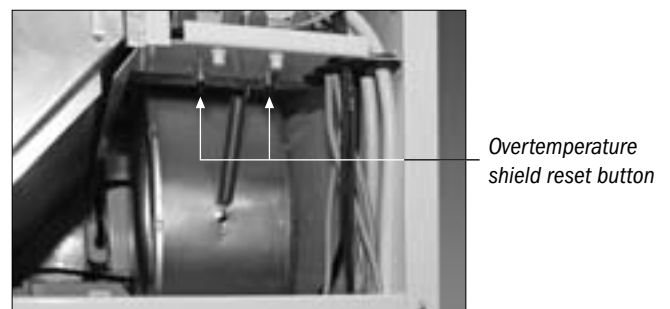

Figure 3.
3. The temperature of the reheater resistor is controlled by an electronic thermal limiter. In the event of a fault, mechanical overtemperature shields switch the reheater resistor off. An overtemperature shield turning off is always a sign of an error, and its cause must be determined. When the heating resistors have cooled down, overheating is reset by pressing the reset button of the overtemperature shield located in the supply air chamber (see Figure 3).